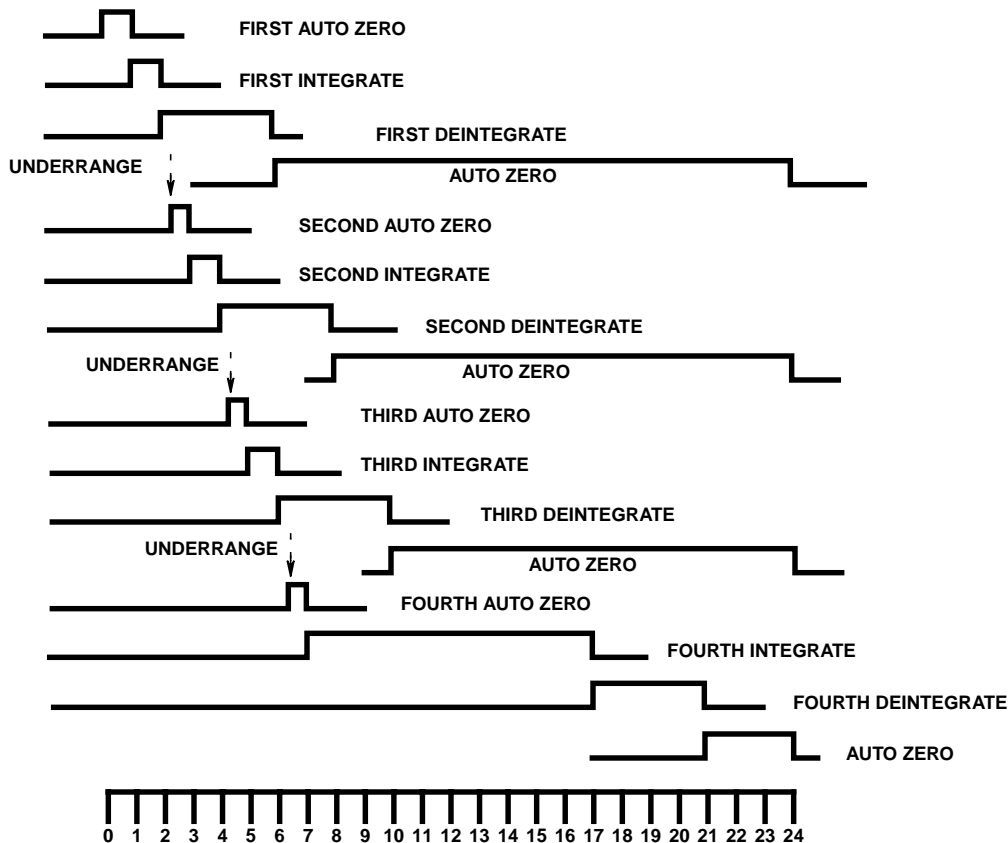
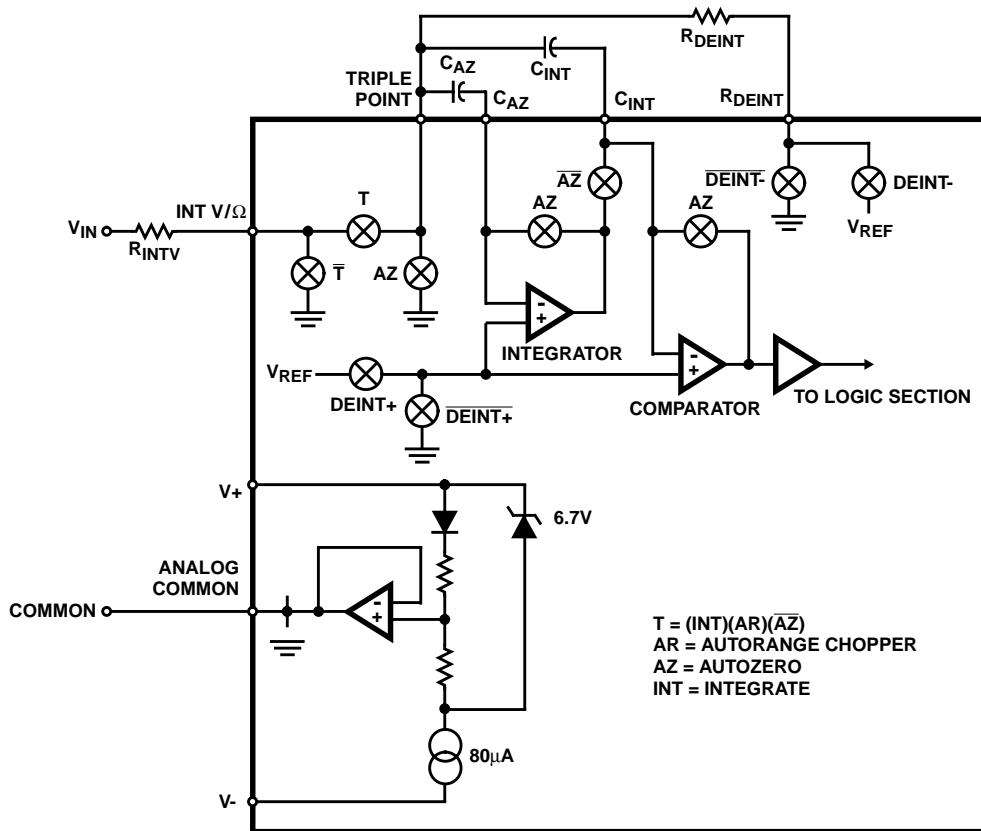

FIGURE 1. LINE FREQUENCY CYCLES (1 CYCLE = 1000 INTERNAL CLOCK PULSES = 2000 OSCILLATION CYCLES)
FIGURE 3. DETAILED CIRCUIT DIAGRAM FOR DC VOLTAGE MEASUREMENT
## Electrical Specifications $V_+ = 9V, T_A = 25^\circ C, V_{REF}$ adjusted for -3.700 reading on DC volts, test circuit as shown in Figure 3. Crystal = 120kHz. (See Figure 14)
Only those portions of the analog section which are used during DC voltage measurements are shown in Figure 3. As shown in the timing diagram (Figure 1), each measurement starts with an autozero (AZ) phase. During this phase, the integrator and comparator are configured as unity gain buffers and their non-inverting inputs are connected to Common. The output of the integrator, which is equal to its offset, is stored on CAZ - the autozero capacitor. Similarly, the offset of the comparator is stored in CINT. The autozero cycle equals 1000 clock cycles which is one 60Hz line cycle with a 120kHz oscillator, or one 50Hz line cycle with a 100kHz oscillator.